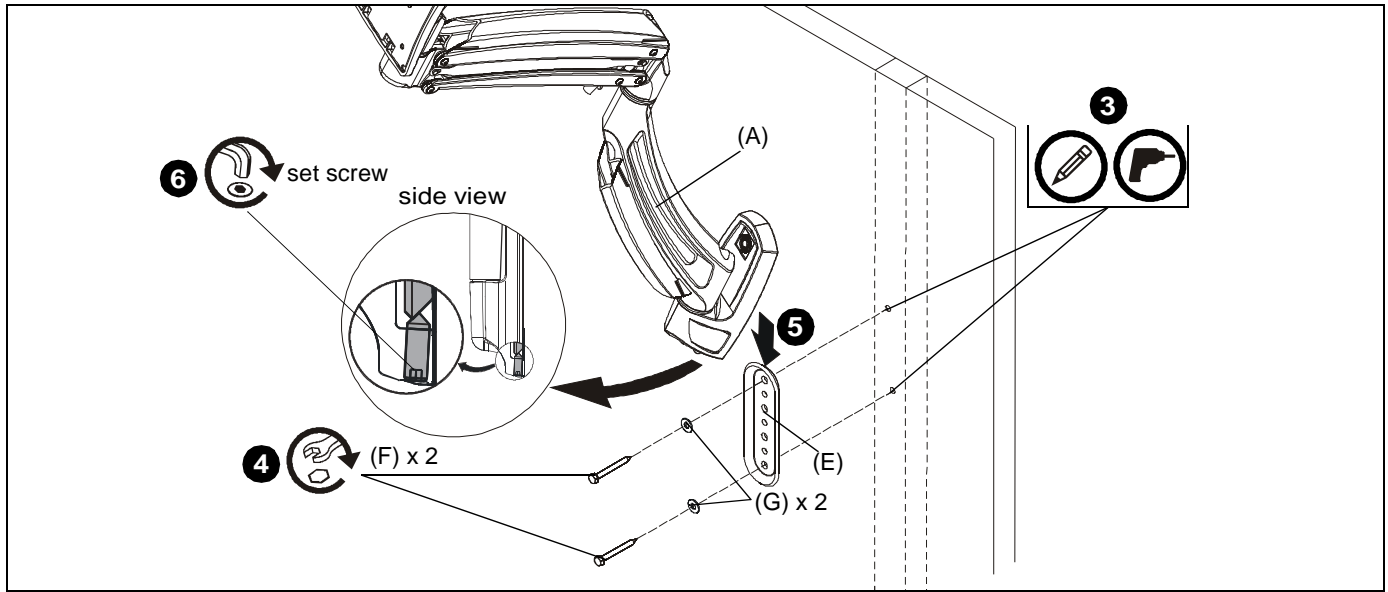

Figure 1
3. Use wall bracket (E) to mark and drill two 1/8" x 2 1/2" holes in wall at desired mounting location. (See Figure 1)
4. Use two 1/4-2 1/2" hex head lag screws (F) and two 1/4" washers (G) to install wall bracket (E) onto wall. (See Figure 1)
5. Hang monitor arm (A) over wall bracket (E). (See Figure 1)
6. Secure monitor arm to wall bracket (E) by tightening set screw. Ensure set screw engages back side of wall bracket (E) to properly secure mount. (See Figure 1)